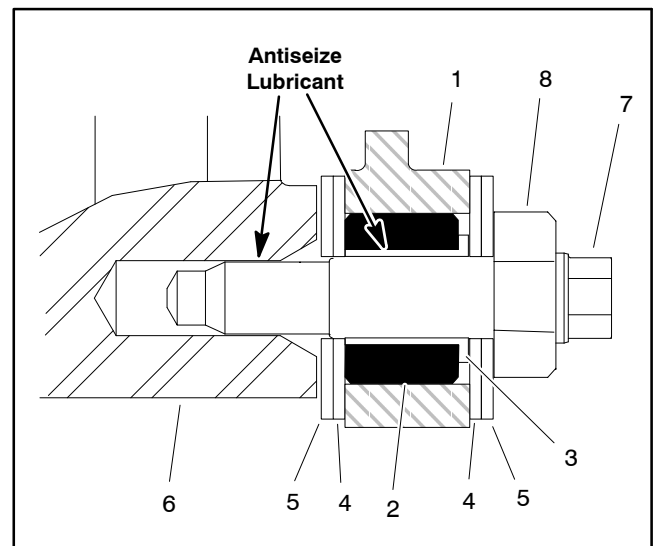

Figure 18
1. If rubber bushing was removed from either cutting unit side plate, apply grease to outside surface of new bushing and install into side plate. The bushing should be installed flush with the inside of the side plate (Fig. 18).
2. If removed, install the nylon bushings (item 15) with flange facing outward. Apply antiseize lubricant to inside of flange bushing.
3. Apply antiseize lubricant to the bedbar threads and the shoulder area of each bedbar pivot bolt (Fig. 18).
IMPORTANT: When installing washers (items 16 and 17), make sure that plastic washers are positioned on either side of the cutting unit sideplate (Fig. 18).
4. Slide one (1) metal washer (item 17) and then one (1) plastic washer (item 16) onto each bedbar pivot bolt.
5. Position bedbar into cutting unit. Make sure that the top of each bedbar arm is between washer (item 11) and adjuster screw flange (item 4).
6. Position one (1) metal washer (item 17) and one (1) plastic washer (item 16) between bedbar and each cutting unit side plate (Fig. 18).
8. Tighten both lock nuts (item 10) until outside washers do not have any endplay but still can be rotated. Do not over tighten the lock nuts as this can distort the side plates and affect reel bearing adjustment. When the lock nut is correctly tightened, there may be a gap at the inside washers.
9. Tighten the lock nut (item 13) on each bedbar adjuster assembly until the adjuster spring is fully compressed, then loosen lock nut 1/2 turn.